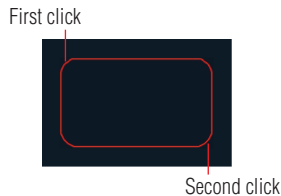

FIGURE 2.10 Rounded rectangle drawn using the Fillet option
7. Click two points to draw the rectangle. The result has filleted corners (see Figure 2.10).